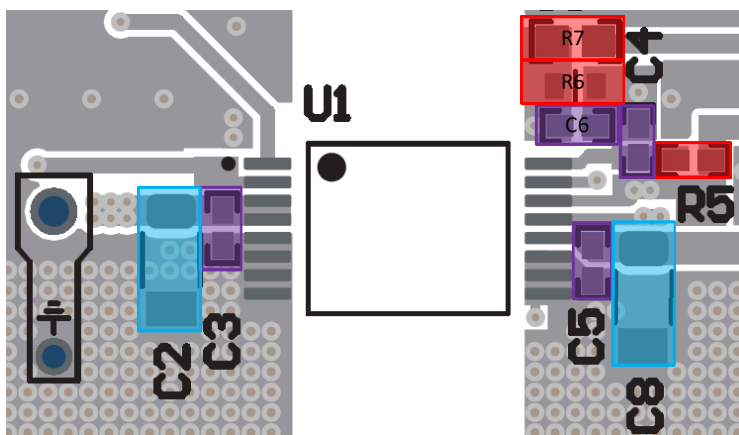

Figure 8-5. Layout Example of Components Locations
- f. A layout example is shown in Figure 8-5. Please refer to the user's guide for more details.